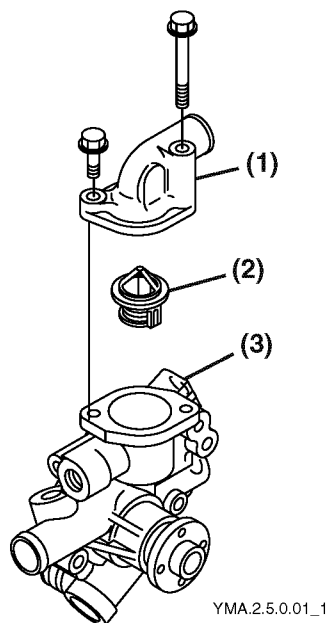

Figure 7-14
The thermostat (**Figure 7-14, (2)**) opens and closes a valve according to changes in the coolant temperature inside the engine. This valve controls the volume of coolant flowing to the heat exchanger from the cylinder head and, in turn, maintains the coolant temperature in the engine at a constant level.
Remove the thermostat cover (**Figure 7-14, (1)**) on top of the coolant pump (**Figure 7-14, (3)**) and take out the thermostat (**Figure 7-14, (2)**). Clean off scale and rust, inspect, and replace if the characteristics (performance) have changed, or if the spring is broken, deformed or corroded.